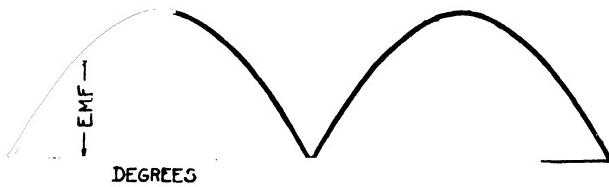

Fig. 13. Curve Representing Variation in Value of Electromotive Force between Brushes of Direct-Current Generator Shown in Fig. 12
such as the one shown in Fig. 13. This kind of an e.m.f. is called a pulsating e.m.f. because it pulsates in value at regular intervals; it is, however, continuous in direction. In order to produce an e.m.f. nearer constant in value more commutator segments and loops of wire must be used.
*is of the same size as that used in winding the single loop. The variation in the e.m.f. between the brushes for such a combination is shown in Fig. 13.*